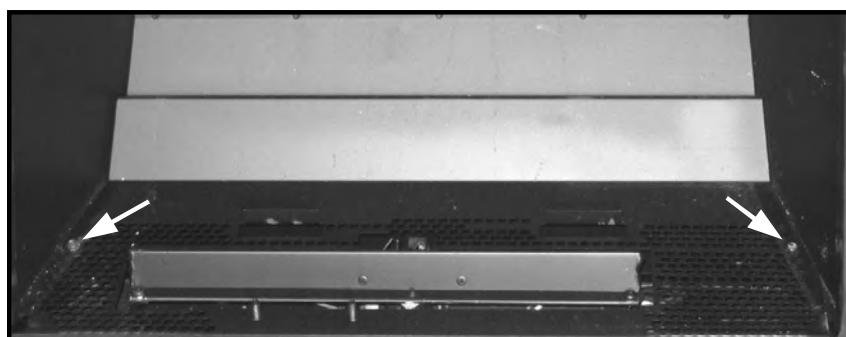

Figure 57: Burner Tray Screws.
3. Secure the burner tray to the firebox by installing one screw on each side of the tray as shown in Figure 57.